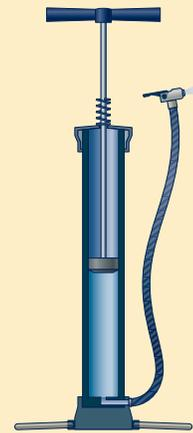

Figure 4.10 Question 2. A hand pump
2. Look at the drawing of the hand pump in Figure 4.10. How does the particle model help to explain how a hand pump operates?